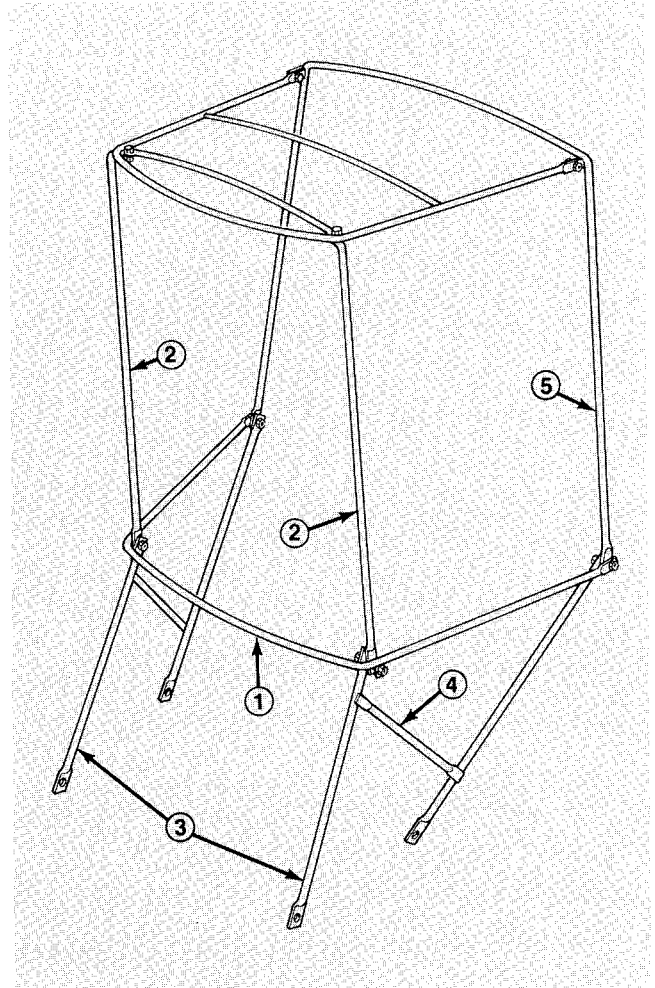

Figure 2
2. Position horizontal curved bow to front corner posts (Fig. 2).
curved bow to the front of the attaching brackets and secure with capscrews ($\frac{1}{4}$ -20 x $\frac{3}{4}$ "') and lock-nuts (Fig. 2).
4. Assemble the rear vertical bow and horizontal curved bow to the rear of the attaching brackets and secure with capscrews and locknuts (Fig. 2).